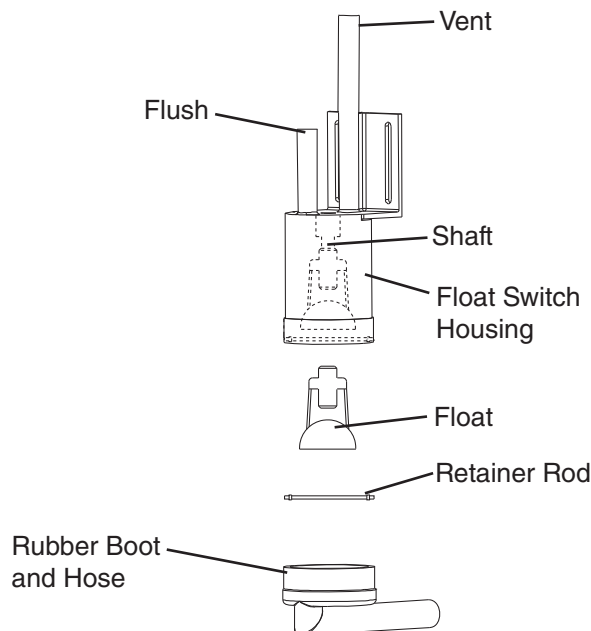

Fig. 4
- 5) Disconnect the vent tube and the flush tube from the top of FS, then remove FS assembly and remove the rubber boot from the bottom of FS assembly. See Fig. 4.